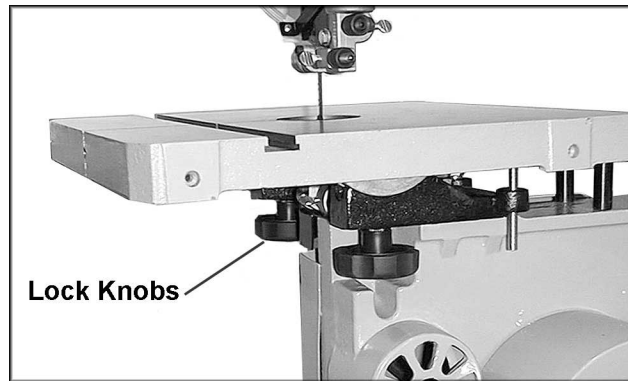

Fig. 7
14. Rotate the table so that the saw blade will slide through the slot in the table. Then orient the table so the screws will slide into the holes on the trunnion support. Attach lock knobs to these screws (Fig. 7).